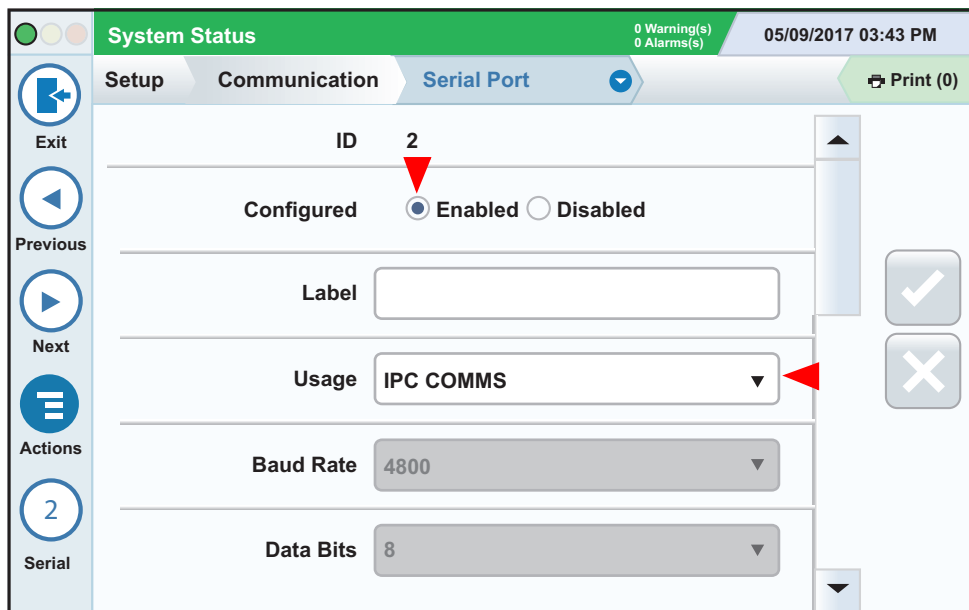

Figure 13. Serial Port Assignment
1. From the initial Workflow Wizard screen, touch the Next button until you see the Serial Port setup screen (see Figure 13). In the 'Usage' field, choose 'IPC Comms'.